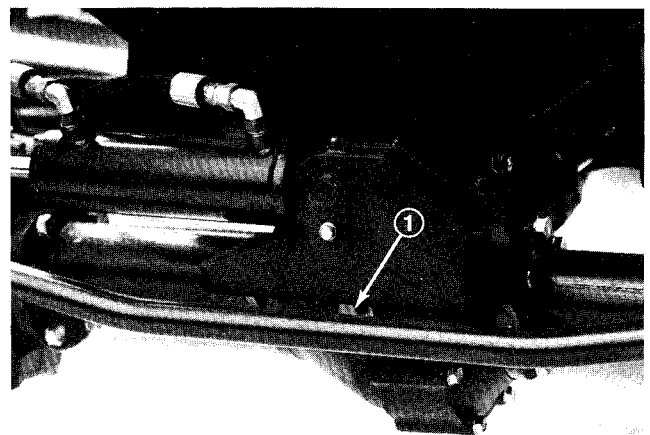

Figure 25
1. Check Plugs (2)
3. Remove plug in center of axle and check level. If level is low, add enough lubricant to bring the level up to the bottom of the hole (Fig. 25).